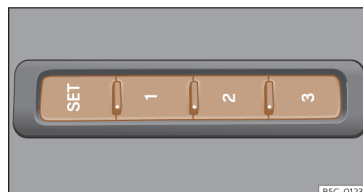

Fig. 101 On the outer side of the driver's seat: memory buttons.
- Press **SET** for longer than 1 second >>> Fig. 101.